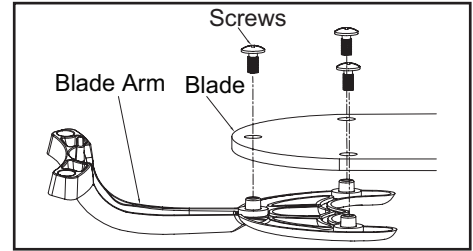

Figure 10
1. Attach blade to blade bracket using screws shown in Figure 10. Please note that the rubber washers are preattached to the blade bracket. Start a screw into the bracket. Repeat for the two remaining screws.